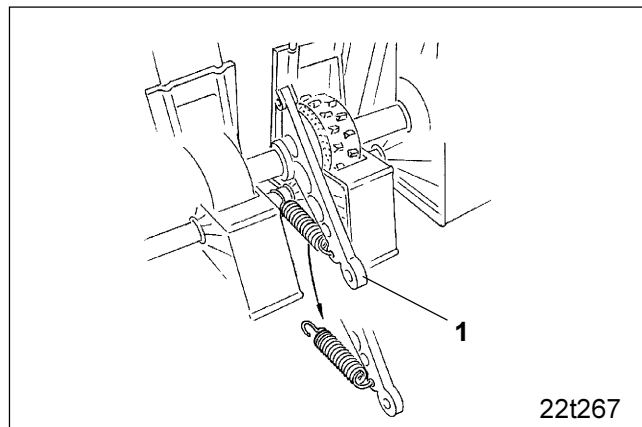

Fig. 10.21
- Slacken the tensioning springs and remove the pressure bearings (Fig. 10.21/1).